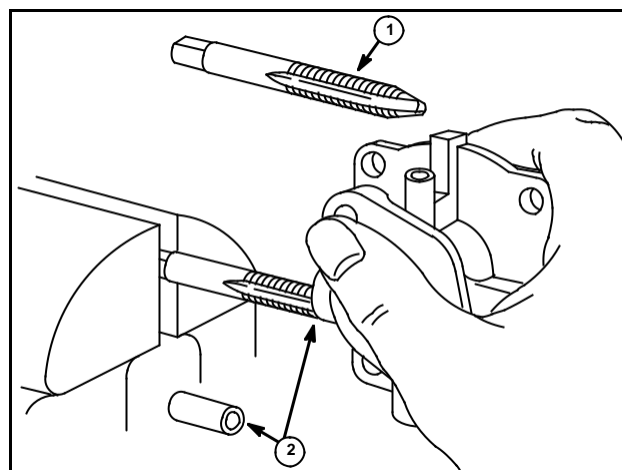

Fig. 138
1. Place a 1/4" x 20 tap (1) or an E-Z out in a vise.
2. Turn carburetor body to thread tap or E-Z out into bushings (2) enough to pull bushings out of body, Fig. 138.